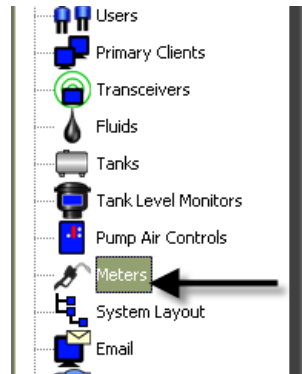

FIG. 134
1. To display the main Meters setup screen, select **Meters** from the list on the Matrix System Panel (FIG. 134).